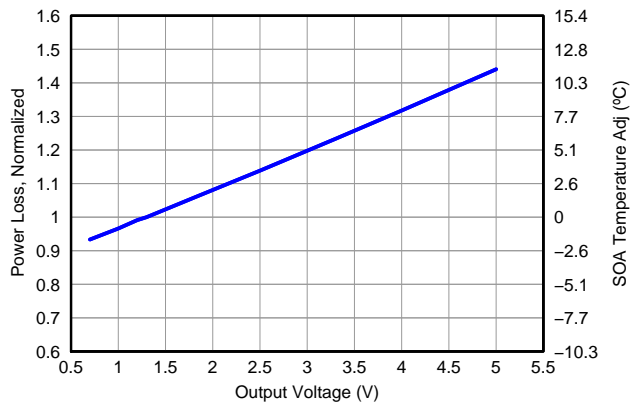

Figure 8. Normalized Power Loss vs. 输出电压
- Normalized Power Loss for output voltage  $\approx 0.98$  (Figure 8)
- SOA adjustment for output voltage  $\approx -0.29^\circ\text{C}$  (Figure 8)